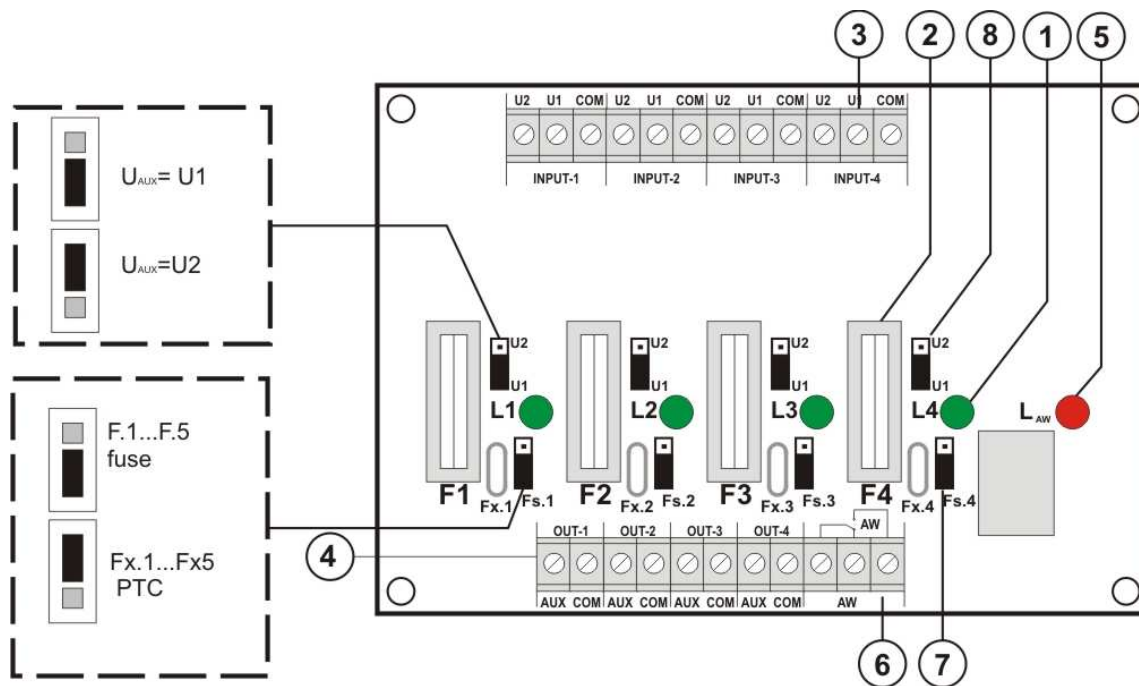
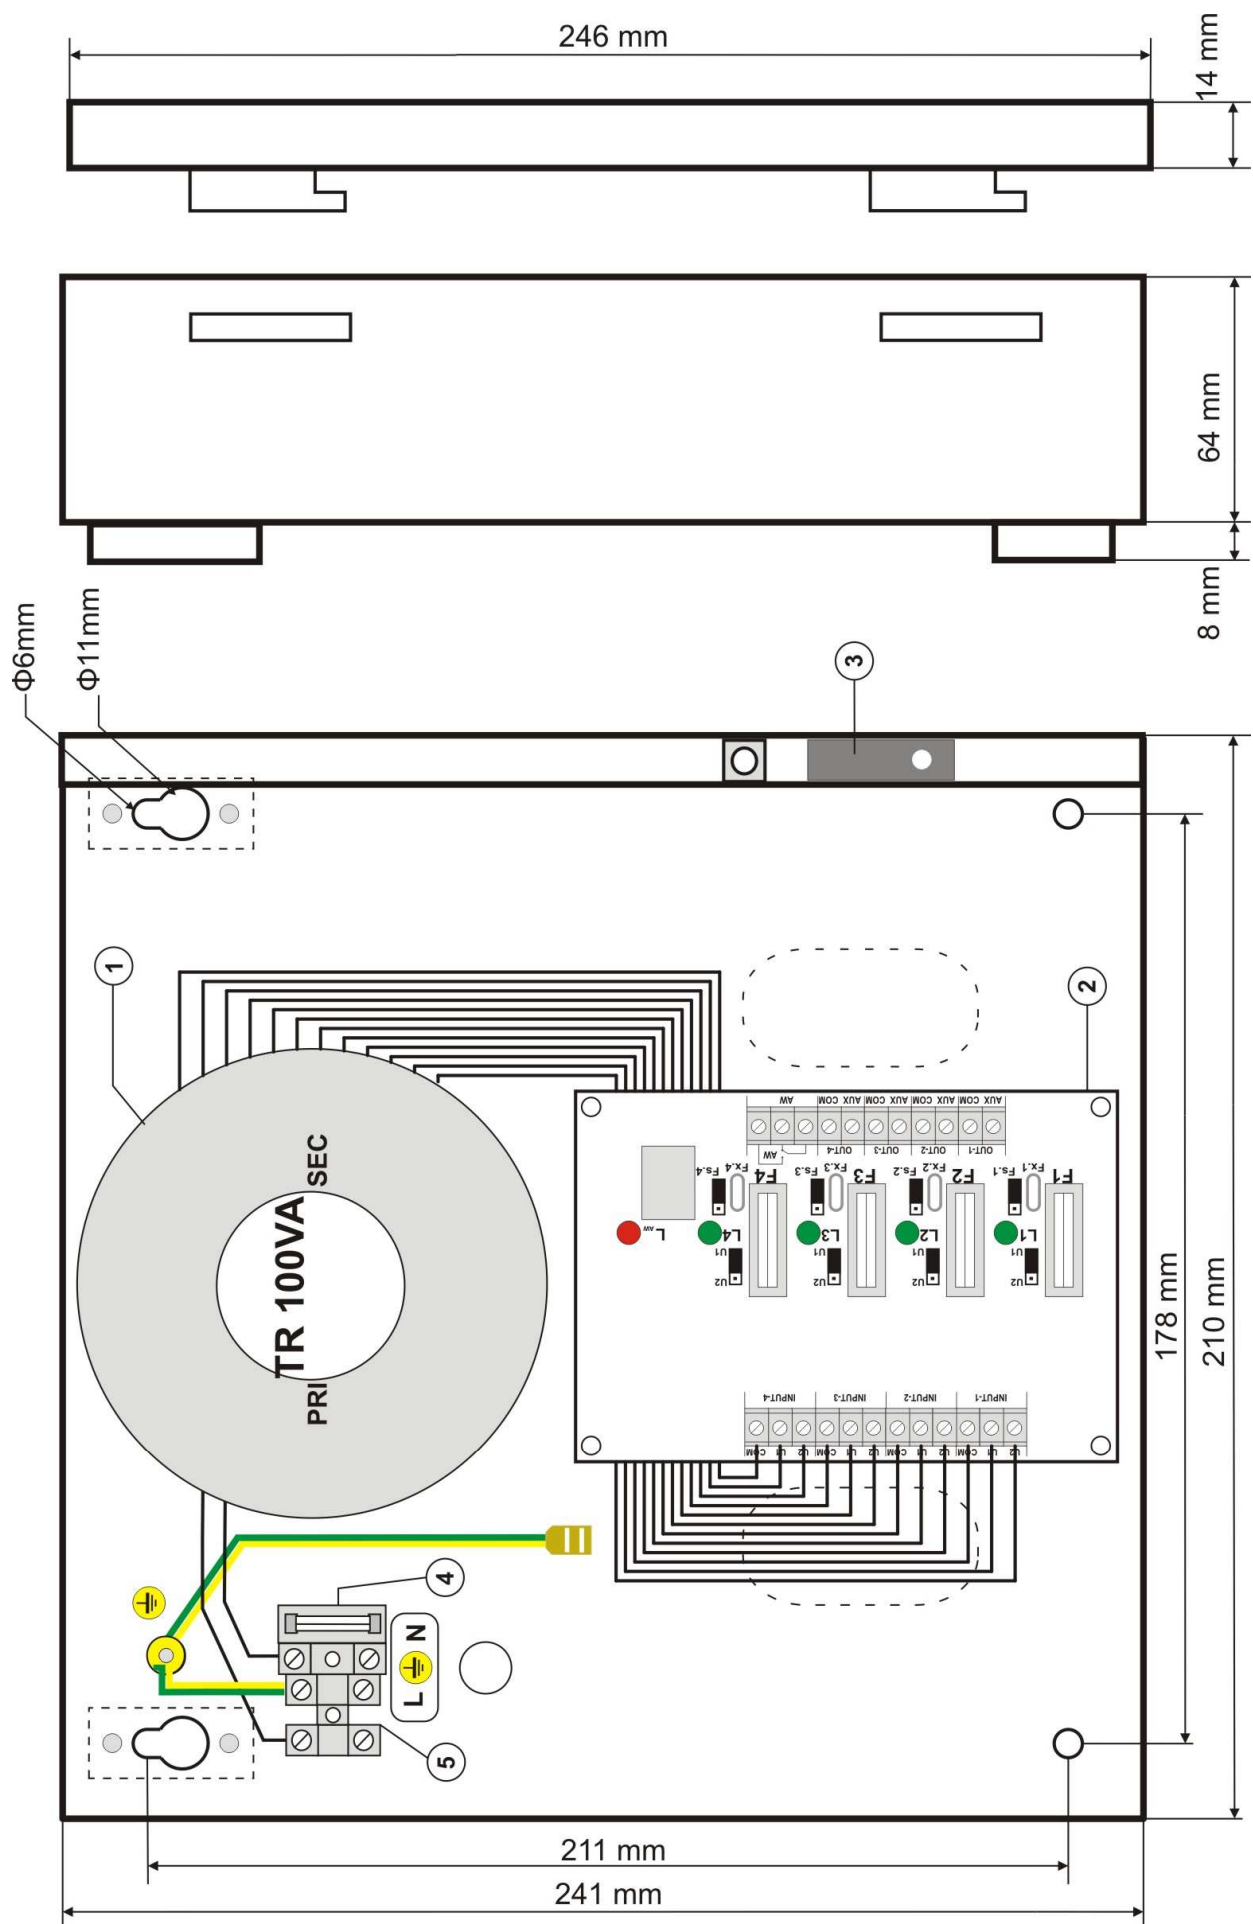

Fig.2. View of the LB4-SEP fuse block..
Fig.4. View of the power supply.
## 1.3. Description of elements and connectors of the power supply ( table 1, table 2, fig. 2, fig.4).
Element No. [Fig. 2]	Description of LB4-SEP elements
[6]	AW output signalling failure of one of the outputs, relay type. Attention! Fig.2 shows non-potential state of relay i.e. the state of failure
Element No. [Fig. 4]	Description of power supply elements
Technical outputs: - AW output signalling failure of one of the AUX outputs (activation of the safety device)  - TAMPER output signalling opening of the power supply casing	relay type, 1A@ 30V DC/50V AC max. Attention! Fig.2 shows non-potential state of relay i.e. the state of failure - microswitch, NC connectors (closed casing), 0.5A@50 V DC (max.)
**Attention!** Fig.2 shows non-potential state of relay i.e. the state of failure.